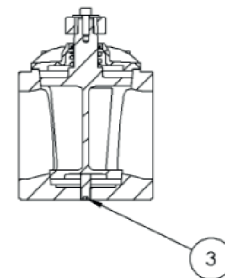

Fig. G.12 - Four-ways valve screw adjustment
- Use a 6mm Allen wrench to operate on the adjustment screw **pos.3 Fig. G.12**, bearing in mind that by screwing it in, the strain on the diverter is reduced while by unscrewing it, the strain increases. Check the hardness of the movement by moving the lever (manual diverter **Fig. G.13**) or observing the movement (pneumatic diverter **Fig. G.14**).
- The position of the adjustment screw **pos.3 Fig. G.12** is guaranteed by "medium" threadlockers. Remove and clean the existing ones, apply a small amount before the new adjustment and let it act.